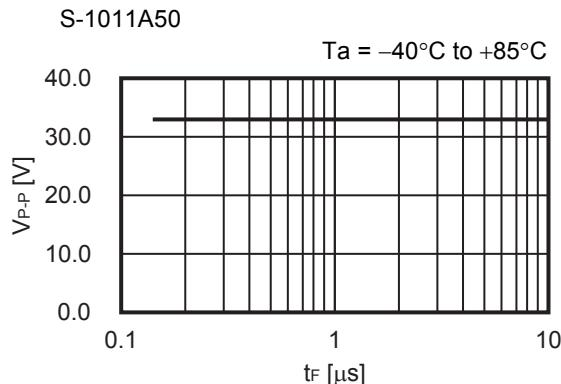

Figure 37  $C_N = 3.3 \text{ nF}$
**Figure 37** and **Figure 38** show the relation between  $V_{DD}$  amplitude ( $V_{P-P}$ ) and input voltage falling time ( $t_F$ ) where the arbitrarily set detection delay time accuracy can be maintained when the VDD pin (VDD detection product) sharply drops.
**Caution** **Figure 37** and **Figure 38** show the input voltage conditions which can maintain the detection delay time accuracy. If the voltage whose  $V_{P-P}$  and  $t_F$  are larger than these conditions is input to the VDD pin (VDD detection product), the desired detection delay time may not be achieved.